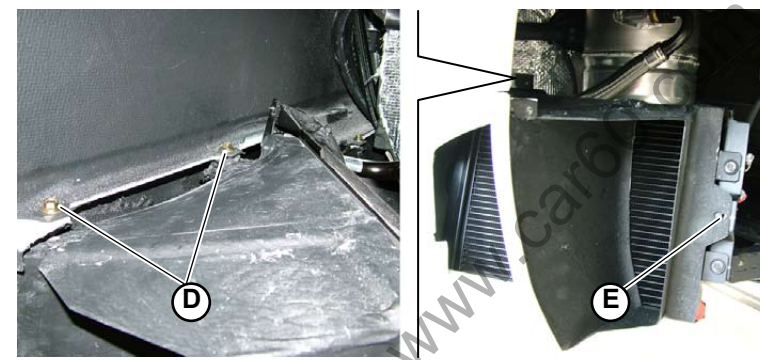

Fig.2
5. Secure the air conveyor onto the side member using the 2 internal screws (**D-Fig.2**).
6. Tighten the screw (**E-Fig.2**) to secure the conveyor onto the oil radiator.